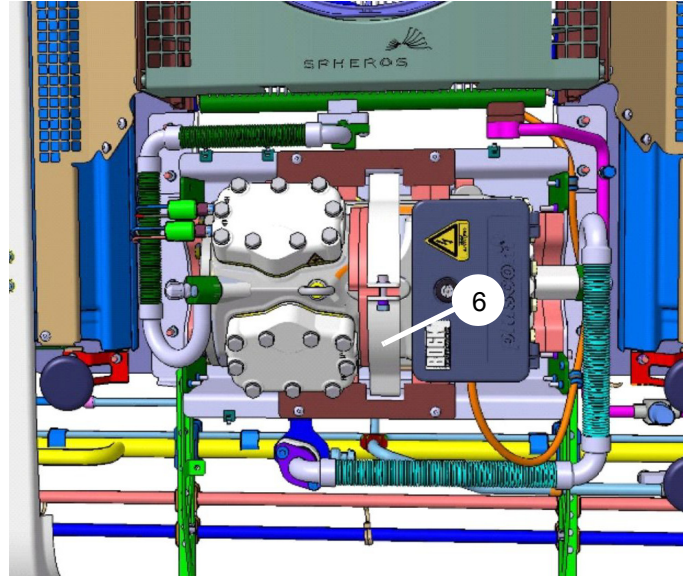

Fig. 813
- Align foam (5, Fig. 812) on the upper side of the compressor and reattach compressor with mounting bracket (6, Fig. 813). Secure screw with sealing wax against unauthorized access.